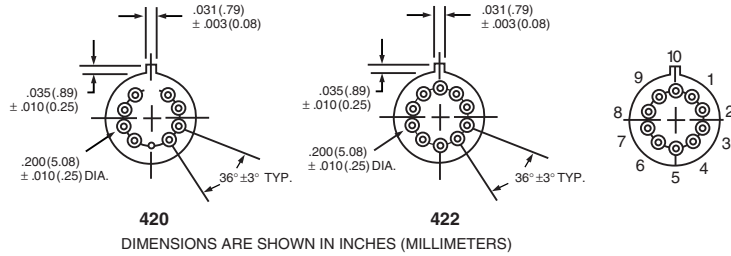

**FIGURE 2**
Contact Load Ratings (DC) (See Fig. 2 for other DC resistive voltage/current ratings)	Resistive: 1 Amp/28Vdc Inductive: 200 mA/28Vdc (320 mH) Lamp: 100 mA/28Vdc Low Level: 10 to 50 μA/10 to 50mV